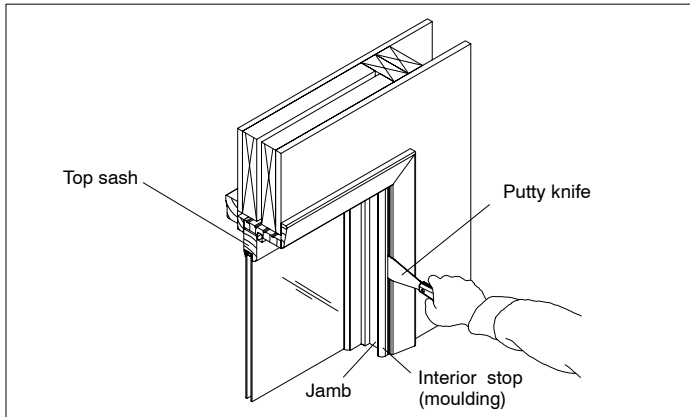

Figure 1
1. Pry moulding loose from the side jambs using a putty knife. Be careful not to damage the casing. See figure 1.